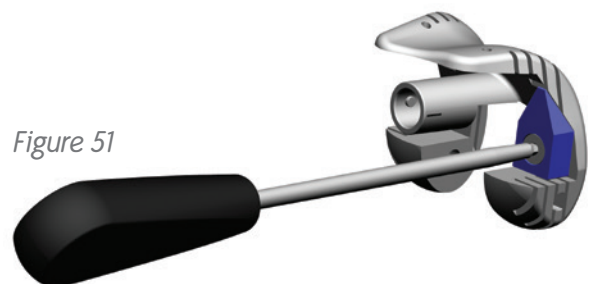

Figure 51
5. Using a 3.5mm hex screwdriver, screw on the appropriate distal, posterior or L-wedge trial(s) to the femoral trial (Figure 51).